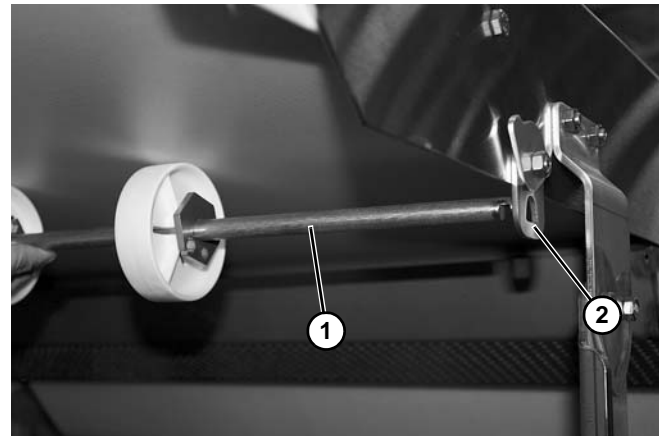

Figure 22
5. Install belt return assembly (Figure 22, item 1) onto return brackets (Figure 22, item 2).